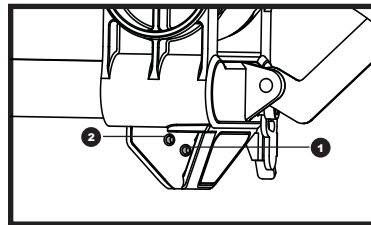

Fig 24
A. Check Laser Beam Alignment. (See fig.24 & 25)
- 2) Use the two adjusting screws on the LH side of the laser housing. (see fig. 24)